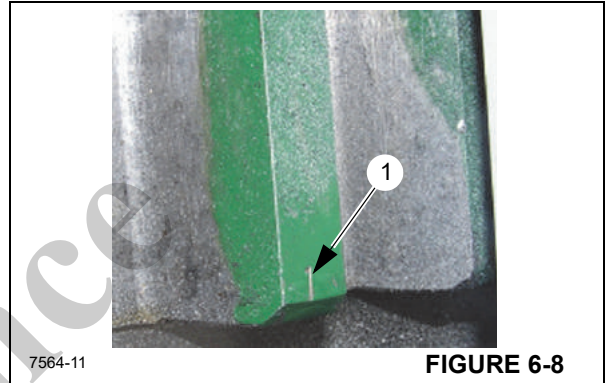
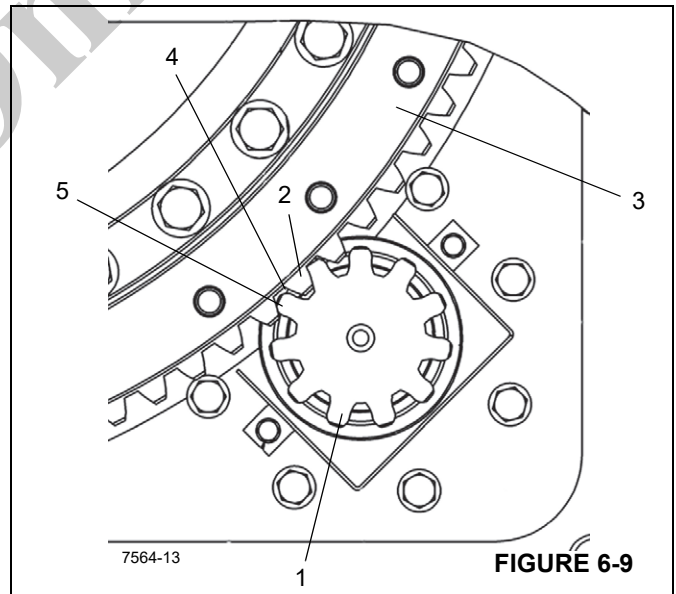

FIGURE 6-8
FIGURE 6-9
- Install the swing drive pinion (1) (Figure 6-9) so that the drive pinion gear teeth are aligned with the high point (maximum eccentricity) teeth (2) on the turret bearing (3).
The high point or maximum eccentricity of the turret bearing is identified at the factory using three gear teeth in a row on the turret bearing as the high point. Tooth one and three are steel stamped (1, Figure 6-8) with a dash mark at the top and bottom of the gear teeth. Use these three gear teeth when installing the swing drive and checking the backlash shown in Figure 6-9.
- Check the backlash (4, Figure 6-9) with a 0.203 mm (0.008 in) thick shim between the drive pinion gear teeth (5) and the high point (maximum eccentricity) gear teeth (2) on the turret bearing.
NOTE: If a new bearing (3) (Figure 6-9) is installed, a new pinion gear (1) must also be used.